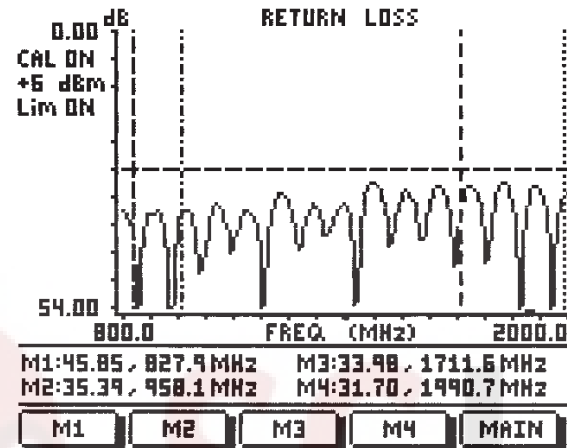

Figure 3-4. Cable Return Loss Measurement Results
- Step 19.** Repeat steps 17 and 18 for markers M2, M3, and M4. Set M2 to 960 MHz, M3 to 1710 MHz, and M4 to 1990 Mhz. (Figures 3-4 and 3-5 depict the cable return loss measurement.)